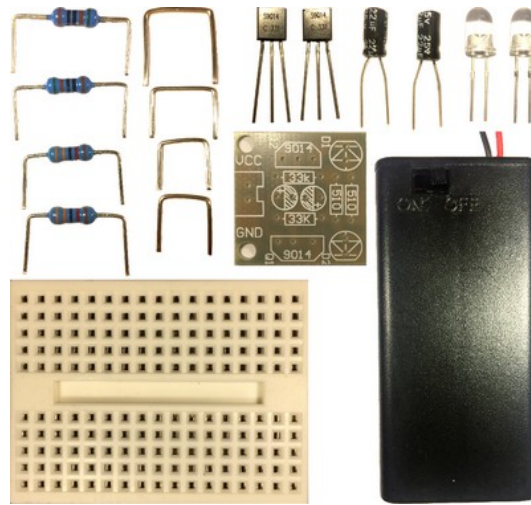

Figure 2: Electronics Prototyping Kit
| Resources <p>For each tester you will need parts from our SARCNET STEM Kit #1 - Electronics Prototyping Kit (see Figure 2), or you can purchase the following parts separately.</p> <ol style="list-style-type: none">1. Switched Battery Holder (3V)2. AA Cells (x2)3. 510Ω 1/4W 5% resistor: Green, Brown, Black, Gold; or4. 510Ω 1/4W 1% resistor: Green, Brown, Black, Black, Brown5. Light Emitting Diode6. 170 Contact Electronics Prototyping Board <p>Plus the following parts not included in the kit:</p> <ol style="list-style-type: none">1. 150mm Pin Leads (x2), or hook-up wire cut, stripped 10mm and tinned at each end |
3. Provide sufficient parts and additional directions for all students to build their own. The parts come from our SARCNET STEM Kit #1 - Electronics Prototyping Kit (see Figure 2), or you can purchase the parts separately. Note: Building their own tester will take students an additional 45 minutes. Do not provide batteries until the student's circuit is checked and the whole class has been briefed. The completed tester should look like the photograph in Figure 19.